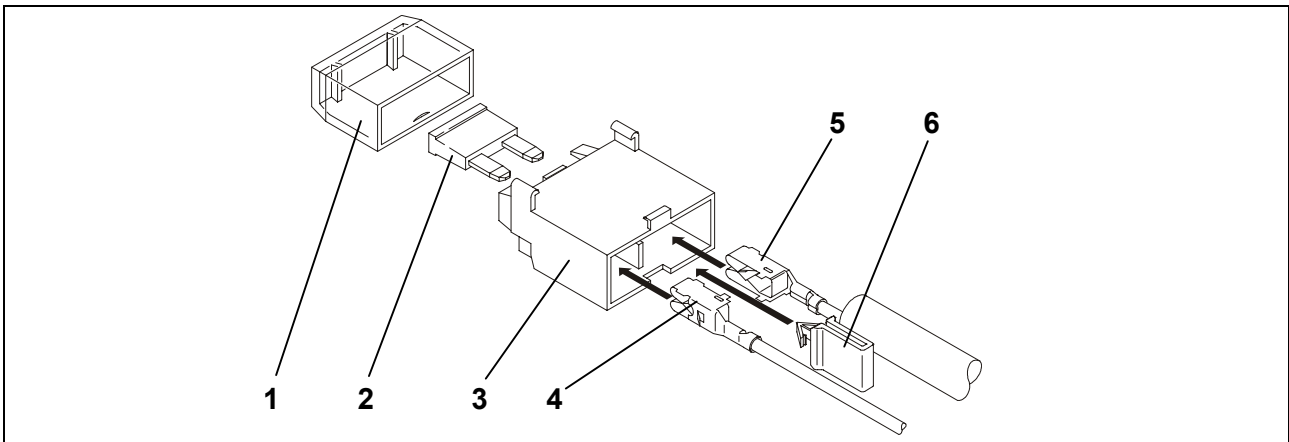

Fig. 2: Fuse holder assembly
15. Lay the red and red/black wire (Fig. 2/4-5) from the 18-pin plug to the fuse holder (Fig. 2/3).
16. Let the quick-connect receptacle of this cable and of the supplied single red cable lock into place in the fuse holder (Fig. 2/3) and insert the yellow clip (Fig. 2/6).
17. Screw the individual red cable onto the positive battery terminal or connect it to the vehicle's fuse box. Insert the fuse (Fig. 2/2) and fit the cover (Fig. 2/1).